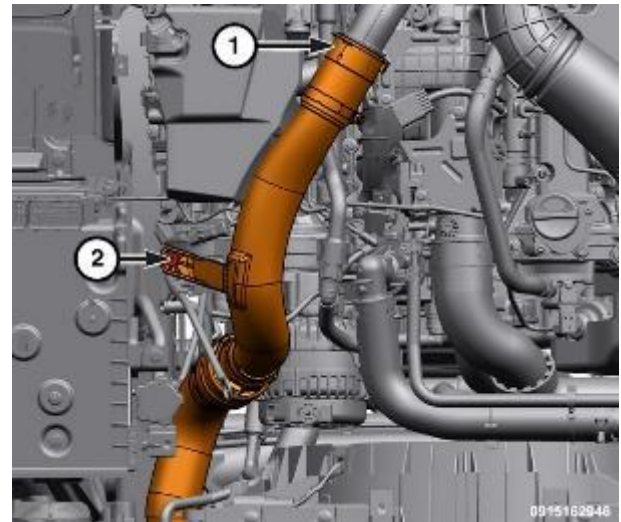

Figure 99 – CAC Hose
15. Remove the Charge Air Cooler (CAC) hose bolt (2) (Figure 99).
16. Release the retaining clip (1) and disconnect the CAC hose from the turbocharger elbow and position aside.